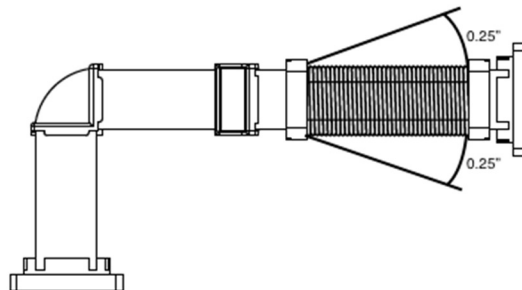

Figure 2 Flex Section Deflection
4. The flex section of the TX Waveguide Filter Assembly is not designed to be used to compensate for installation error. The flex section **shall not** be deflected more than 0.25 inches in any direction in the installed state (see Figure 2). This section is intended only for deflection needed for the removal and installation of the Line Replaceable Units (LRUs) it connects to.